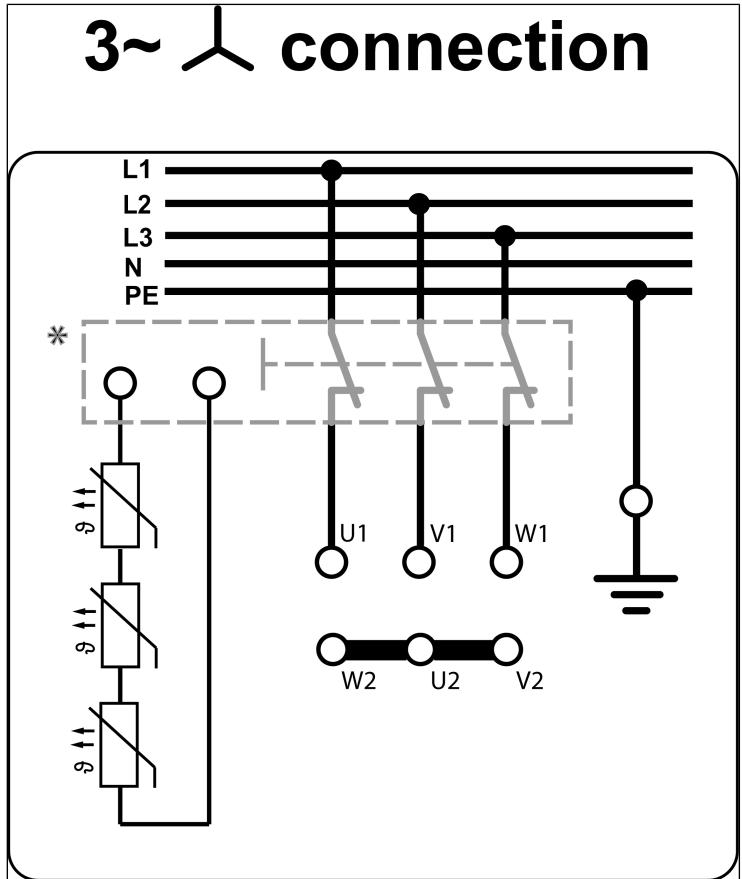
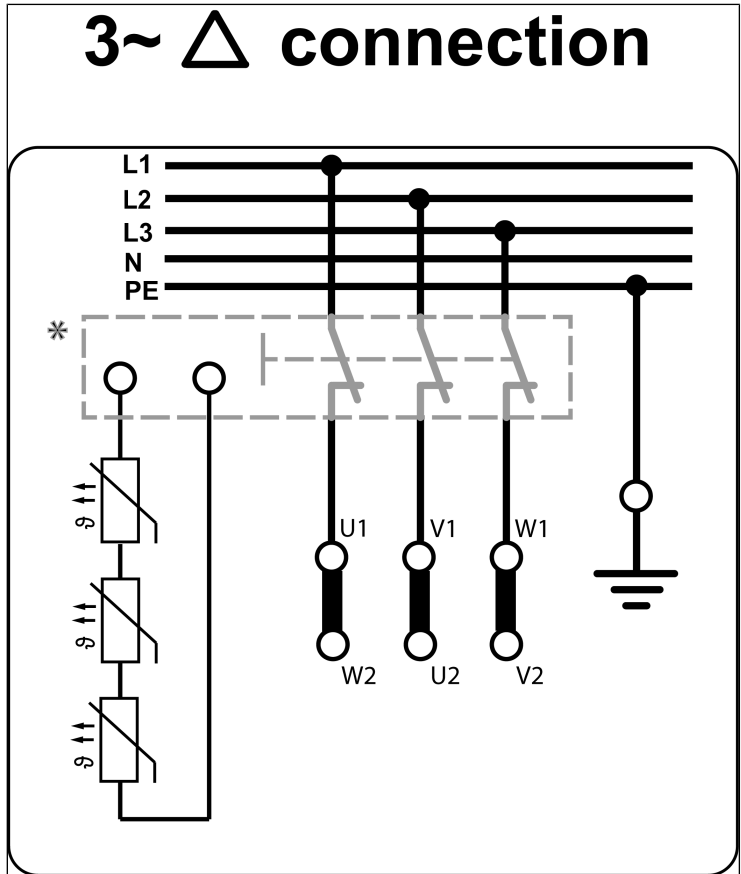
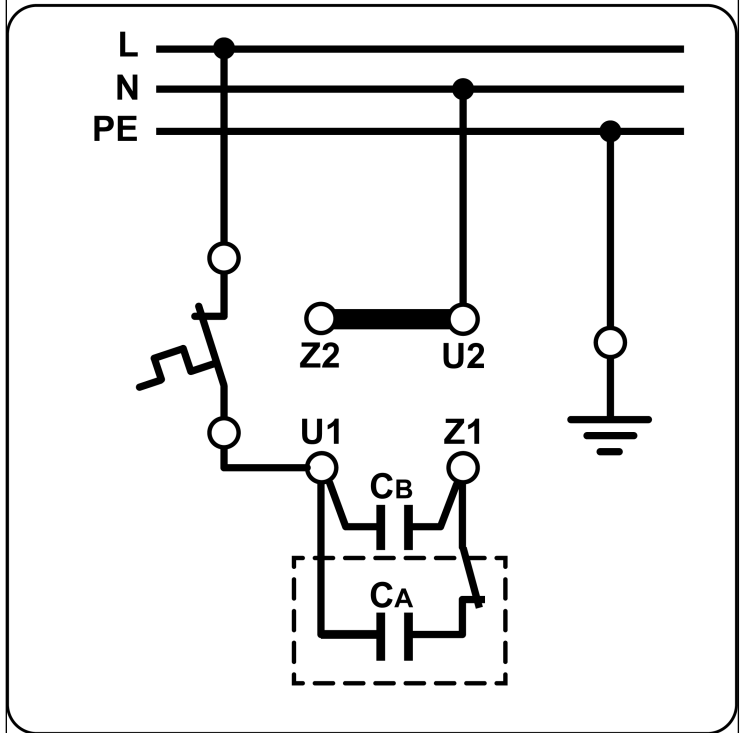

Fig.9: Star connection (three-phase motor; high voltage)
Fig. 10: Δ -connection (three-phase motor; low voltage)
Fig. 11: Electrical connection
4. Connect the cables according to the electrical voltage Fig. 9 and Fig. 10 (three-phase motor) or Fig. 11 (capacitor motor).
- KNF recommends thermally protecting the PTCs at the customer's premises with a motor protection switch or a motor protection relay (see * in Fig. 10 and Fig. 9).
- KNF recommends connecting the thermal switch at the customer's premises according to Fig. 11.